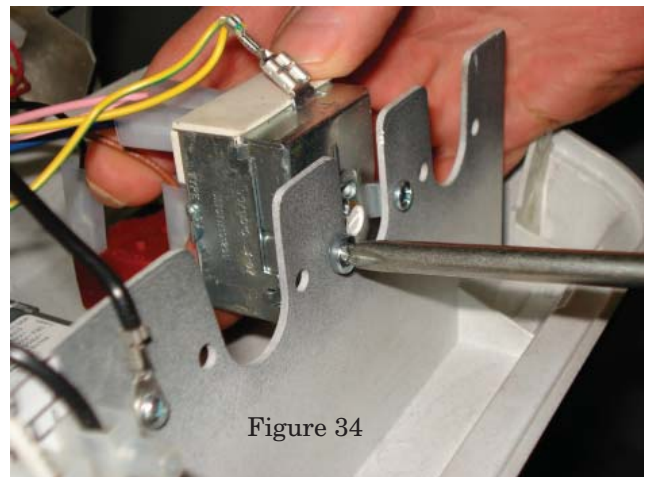

Figure 34
2. Remove the existing auto-reset water temperature limit and discard the screws. See Figure 34.